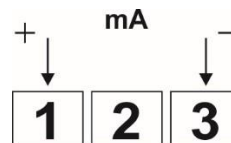

Figure 13 – 0-20 mA and 4-20 mA connections
- 0-20 mA and 4-20 mA:** Figure 13 shows the connection mode for current signals.